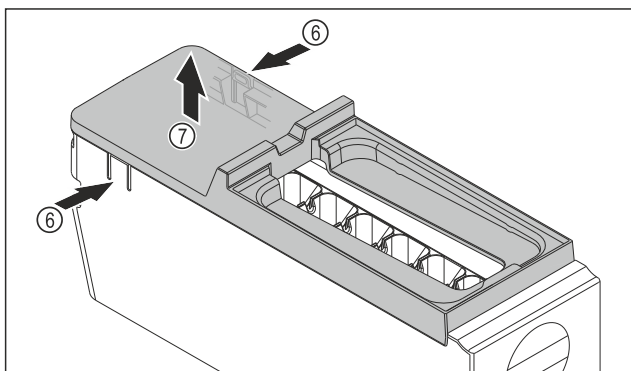

Fig. 155
- Removing the EasyTwist-Ice body cover: Push the tabs Fig. 155 (6) on both sides of the EasyTwist-Ice body with one hand.
- Use the other hand to remove the cover Fig. 155 (7) upwards.